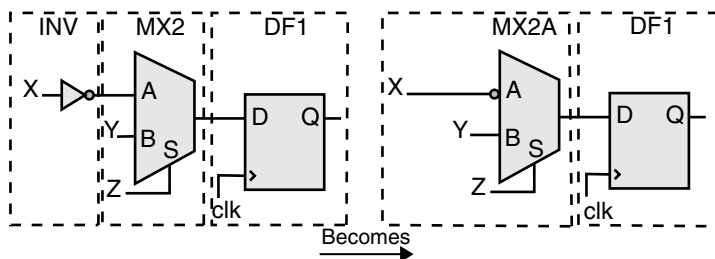

Figure 4-4. Logic Modules Decreased
2. **It implements the new combinatorial macro by combining the basic combinatorial macro from step 1 with its previous combinatorial macro in a design.** For example, “MX2” and an inverter “INV” are combined into “MX2A.” The total number of logic modules is decreased to one combinatorial and one sequential module, shown in Figure 4-4.